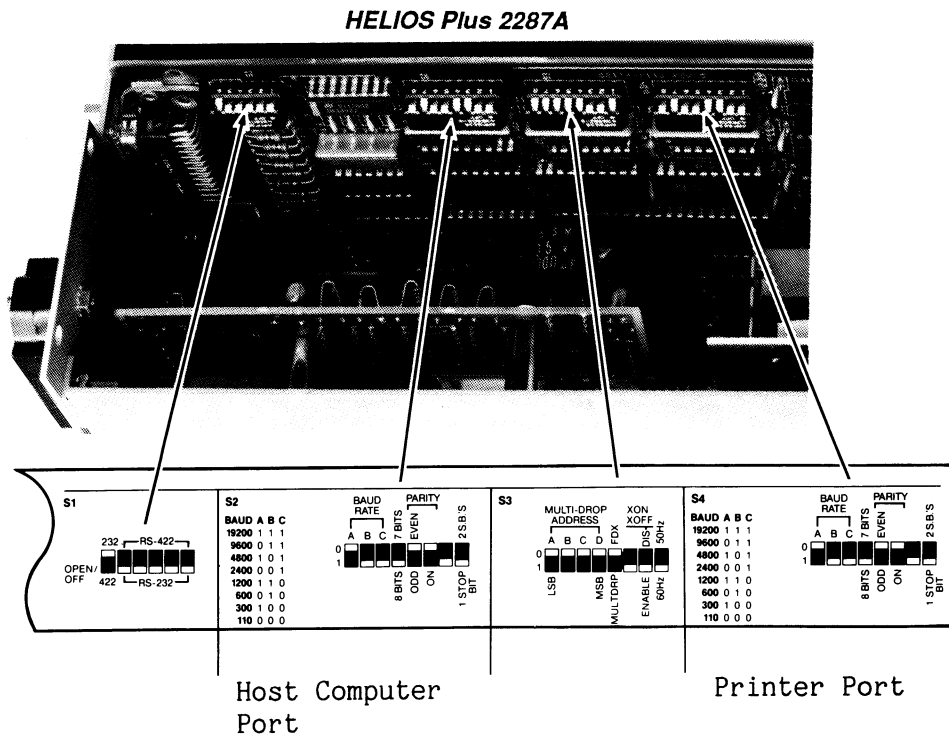

Figure 4-4. Communication Parameter Selection Switches
6. While the Computer Interface Module is out, locate the Line Frequency Selection Switch, S3-8, (see Figure 4-4) to ensure it is set to the local line frequency.